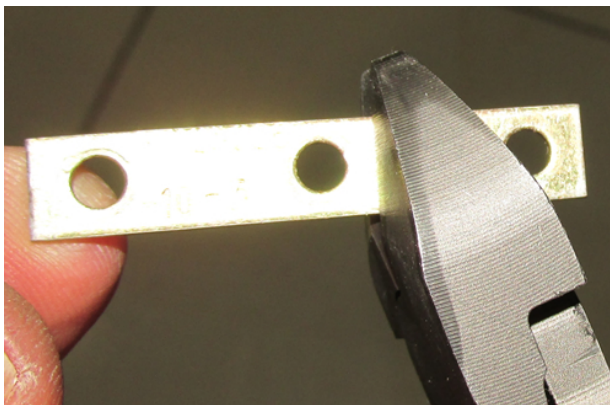

Figure 5-5: Bus Bar Modification
7. Remove the three (3) position bus bar connecting the PANEL LIGHTS, ALT, and ALT SENSE circuit breakers.
8. Cut the three (3) position bus bar to remove one position in accordance with specification MS25226-10-2 *Link, Terminal, Connecting*. See **Figure 5-5**.